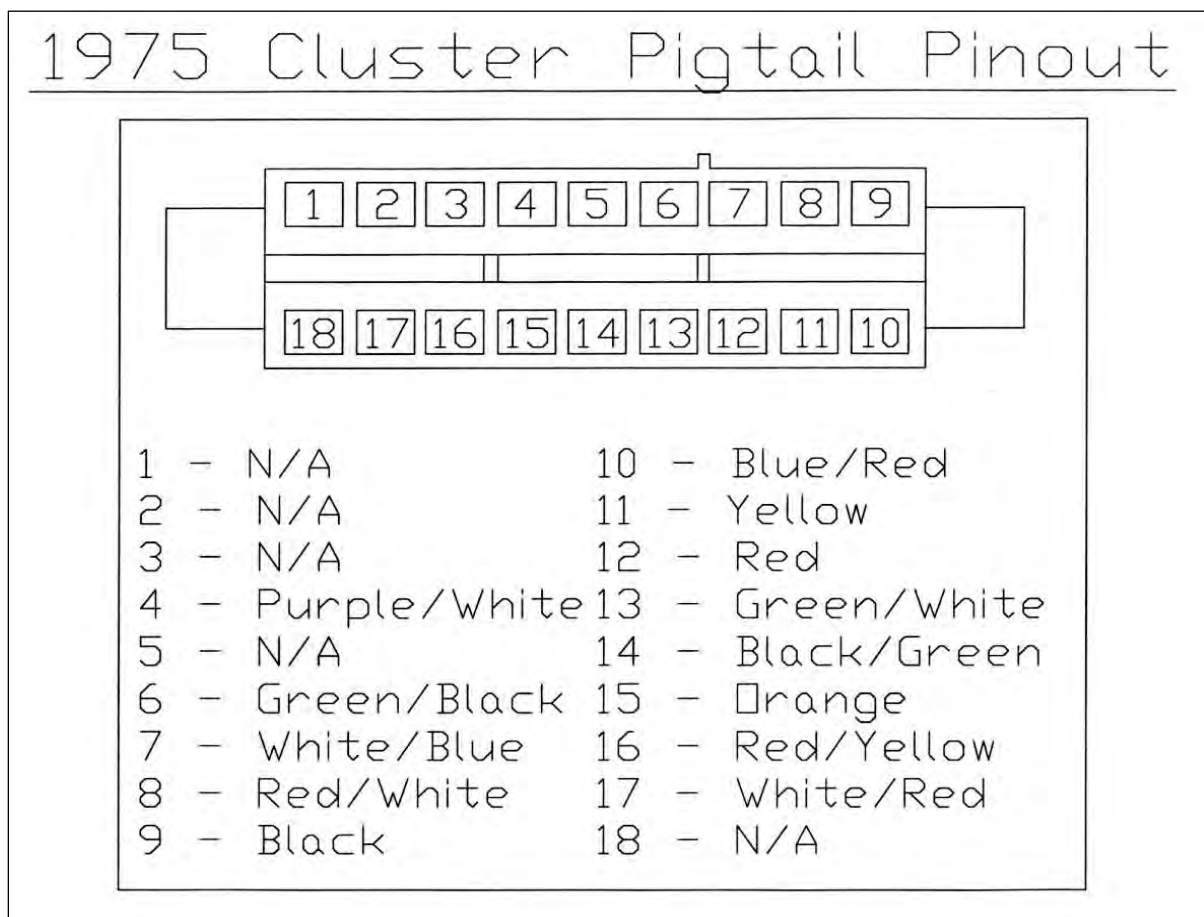

Figure 7-39 1975 Cluster Pigtail Pinout
- 7.18.1** For the years 1975 thru 1977 locate the '75 – '77 Cluster Pigtail in the harness kit. The gauge cluster connectors for 1975, 1976 and 1977 Ford trucks are all the same for the gauge clusters. **The original connector and terminals for the gauge cluster must be reused on all '75, '76' & '77 trucks.** NOTE: A small flat screwdriver may be used to remove the terminals from the original connectors. After removal, it is recommended to solder the old terminals to the new wires in the cluster pigtail. See **Figures 7-39 and 7-40 for the cluster pin outs. Locate the year of the gauge cluster being rewired and follow the diagram for the proper pin out.**